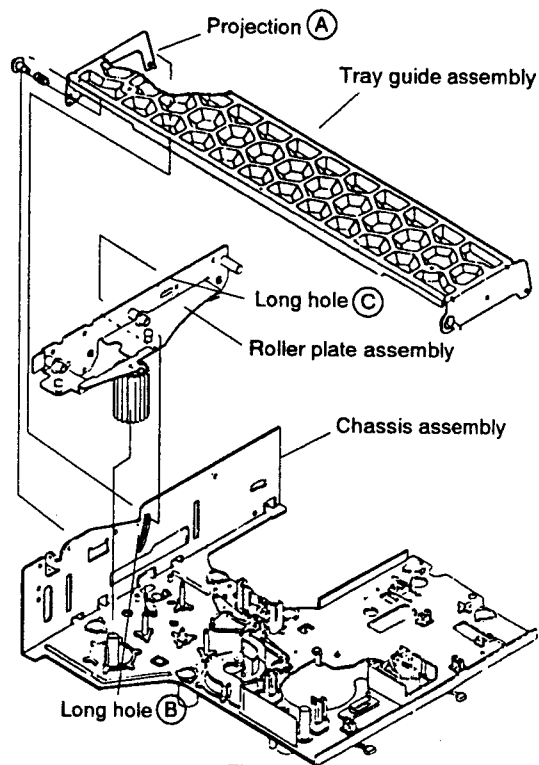

Fig. 17
- ① Install the tray guide assembly in the position where projection ① of the tray guide assembly fits into the long hole ② of the chassis assembly and the long hole ③ of the roller plate assembly. (Fig.17)